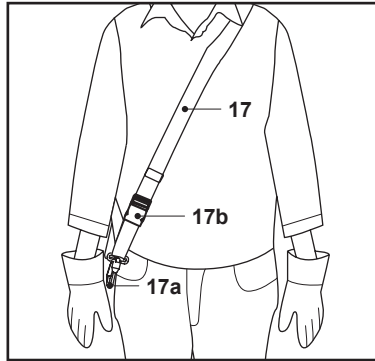

Fig. 5
1. Place the harness (17) so that it runs over the left shoulder, crossing the chest and back. The securing clip (17a) must be located at the right hip. The quick release (17b) must be in front (Fig. 5).